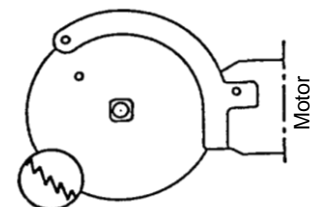

Fig. 7.3 – Direction of blade teeth
- 1) Place the saw blade ready for use on the square holding fixture; the teeth must point towards the motor on the underside, see Fig. 7.3.
- 2) Insert the retention pin (A) into the hole in the saw blade (H) and turn it with the saw blade against the protective hood (T). Place open-end wrench (G) on hexagon clamping nut (M) and clamp tightly in the direction shown (tightening torque: 50 Nm). Do not tighten the hexagon clamping nut with excessive force.